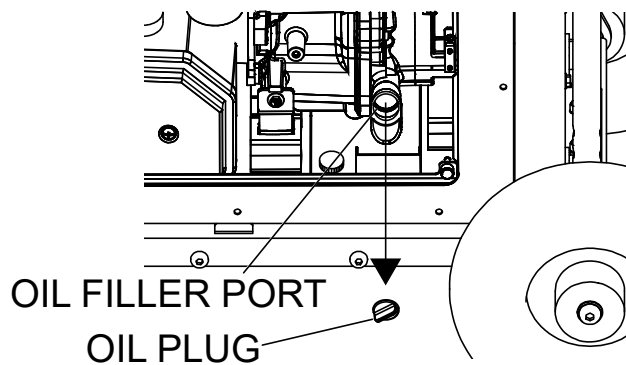

Figure 40. Removing Oil Plug
6. Remove the oil plug (Figure 40).